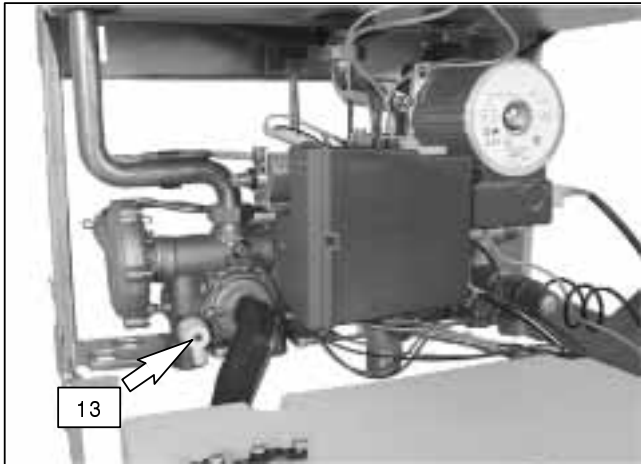

fig. 6.4
- 2 Open the central heating drain cock (13 in fig. 6.4).